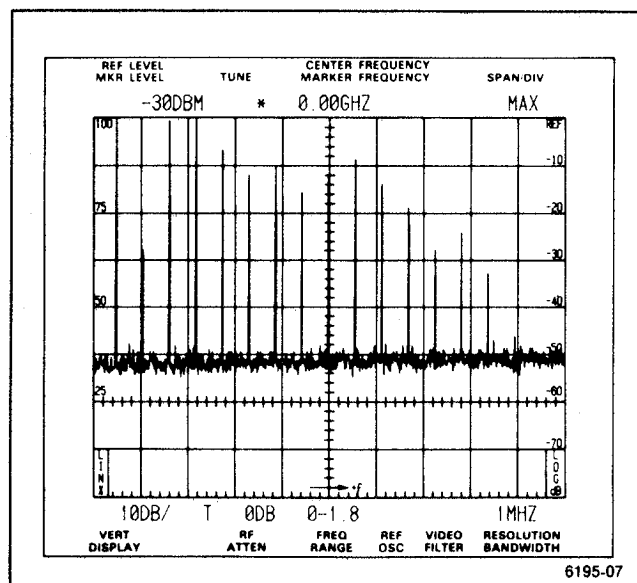

Figure 5-2. Typical display of calibration markers in the maximum span position.
e. A comb of 100 MHz markers will be displayed, as shown in Figure 5-2. To select 100 MHz center frequency, press the pushbutton sequence of FREQUENCY 1 0 0 MHz.